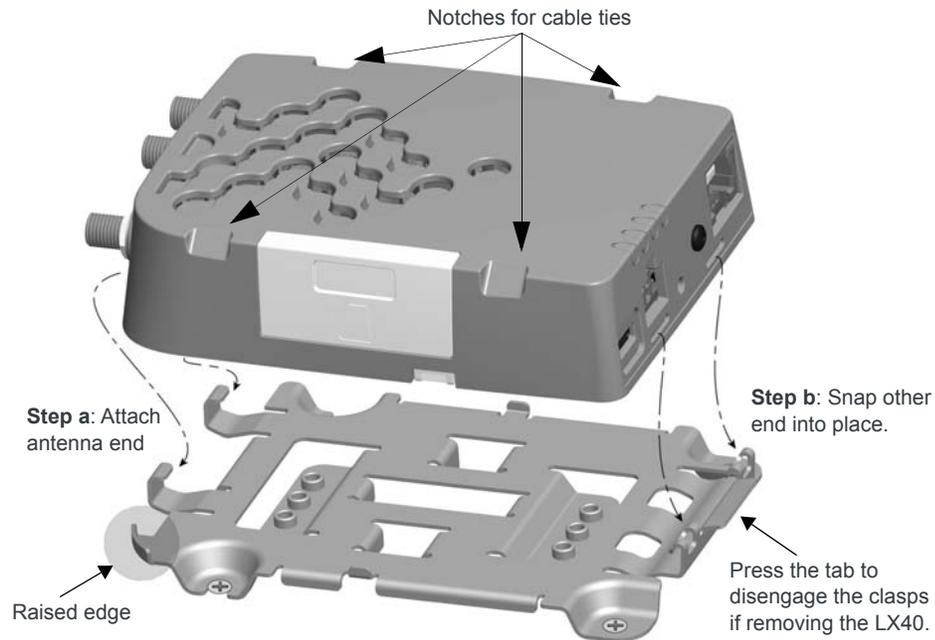

Figure 2-5: Attaching the LX40 to the bracket
2. Snap the LX40 onto the bracket (see Figure 2-5 on page 16).
2. Wrap the ties around the LX40, using the notches in the LX40 casing (see Figure 2-5) to align the ties.